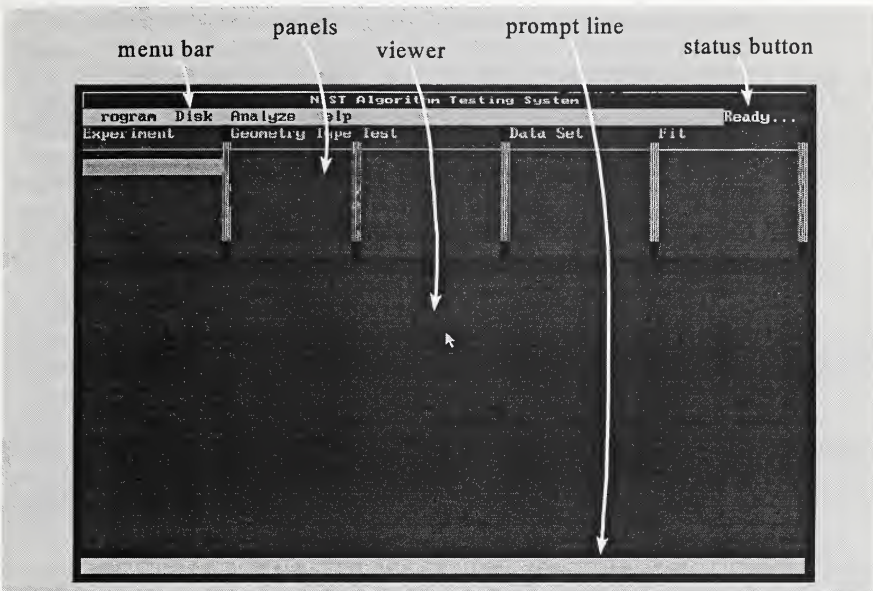

Figure 1 - The ATS Initial Screen
- 2 *ATS screen* After initialization, a "data-less" ATS will appear before you. You will see the following, as illustrated in figure 1: